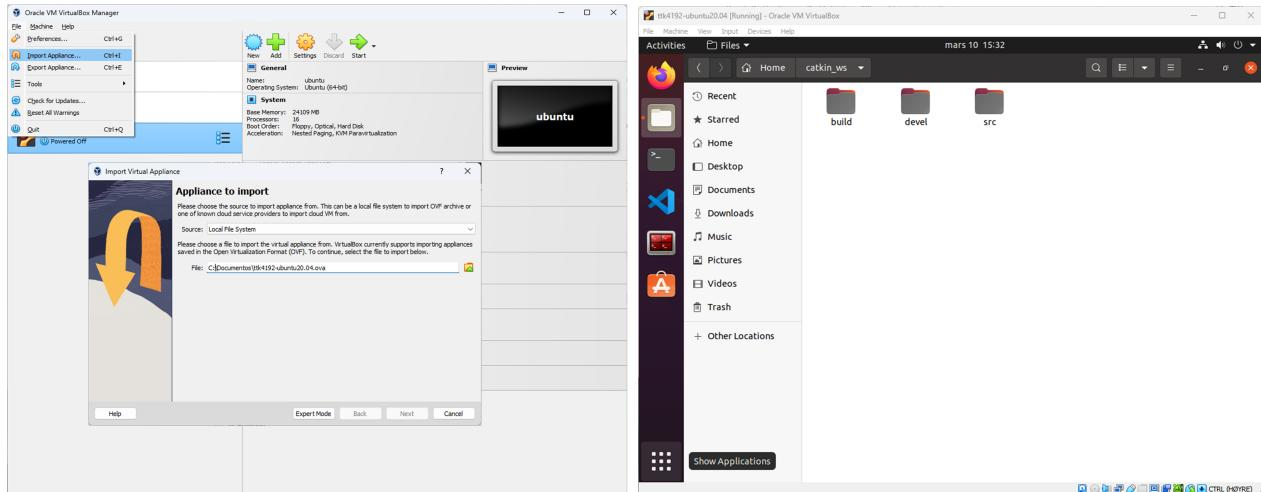

Figure 5: Virtual machine for computer assignment 4
- Open the VirtualBox program and go to *file >> Import appliance* and then navigate to the location of the downloaded "ttk4192-ubuntu20.0.ova" file, as in Fig. 5.